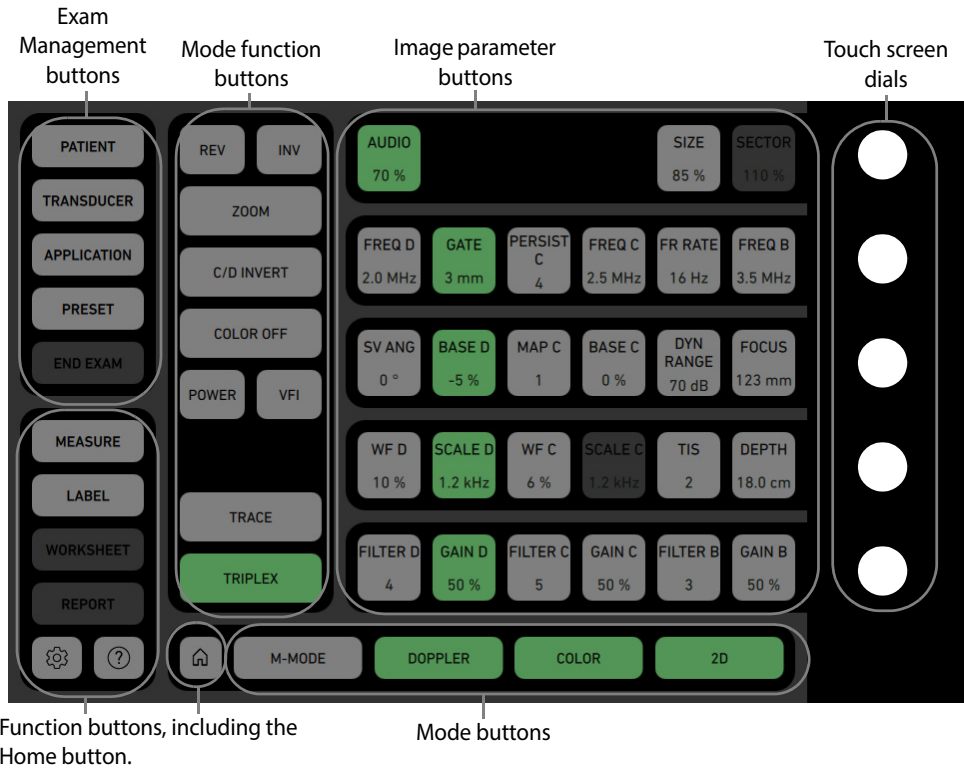

Figure 2-18. Touch screen Advanced layout.
- To use the transducer, application and preset already selected on the system, tap **Start Exam**. Otherwise, continue your selection by tapping the relevant main button (see Fig 2-18).